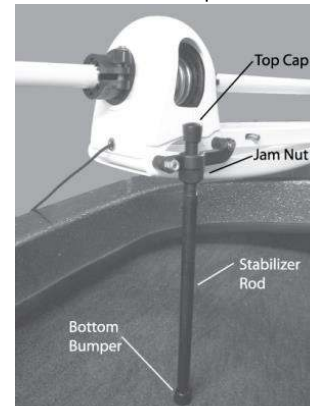

Fig. 3
10. Screw the Rod into the Bracket. Install the Top Cap in the threaded end of the Rod. The Rod is threaded for adjustment. Screw the Stabilizer Rod up or down to achieve best support. Adjust the Rod to remove the load from the rear latch pin on the motor bow mount. (Note: Do not adjust the Stabilizer Rod too high, as this will prevent the rear latch pin from latching.) After adjusting the Rod to the desired height, tighten the Jam Nut against the bottom side of the Stabilizer Bracket to keep the Rod from turning. See Fig. 3.